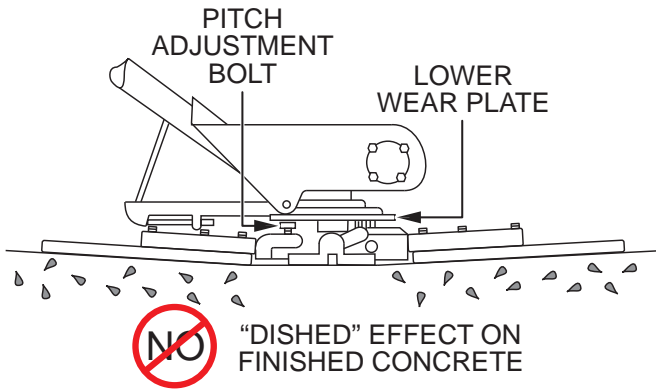

Figure 63. Blades Pitched Flat (Incorrect)
- Figure 63 illustrates incorrect spider plate alignment due to improper adjustment, worn spider bushings, or bent trowel arms.